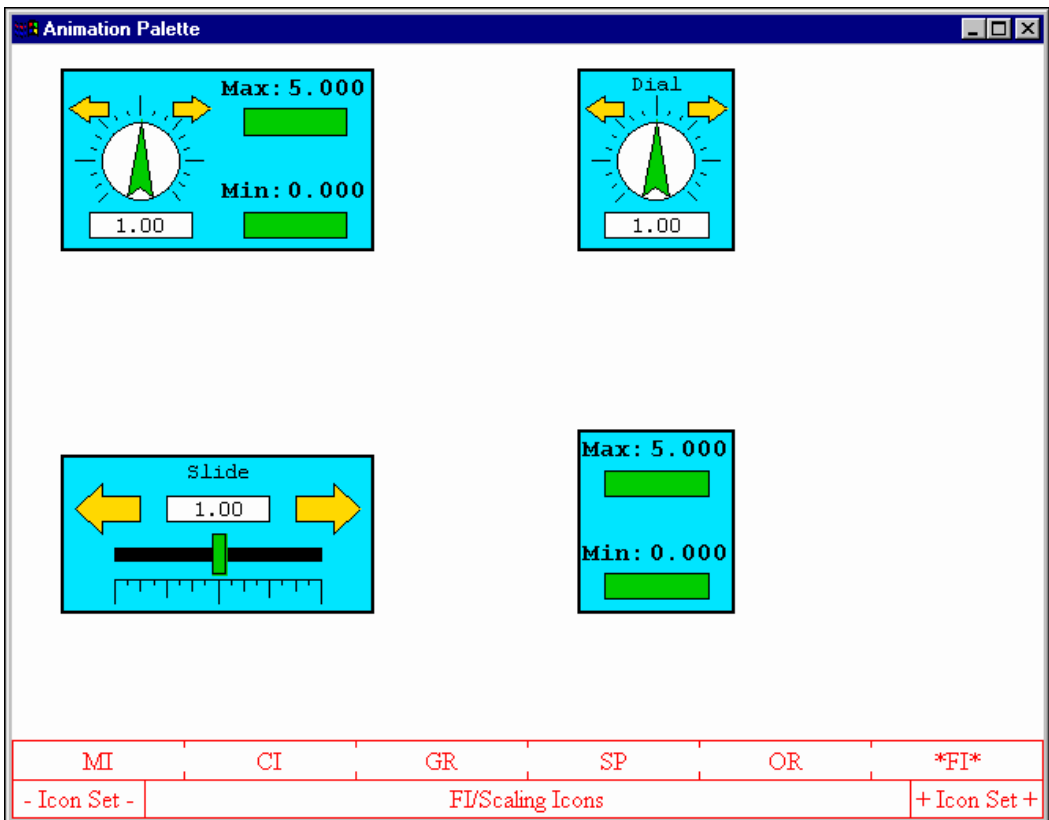

Figure 2-12. Scaling Icons (FI Palette)
- **Scaling Icons (FI palette)**—The scaling icons, shown in Figure 2-12, include a dial, minimum and maximum indicators, and a slider.